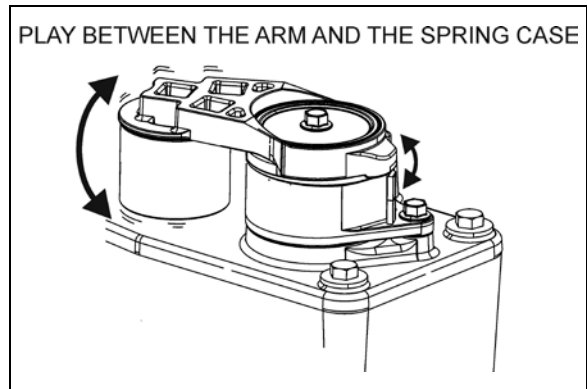

FIGURE 23: CHECKING BUSHING WEAR
2. Pry the automatic belt tensioner arm and check for a play between the arm and the spring case (FIGURE 23).